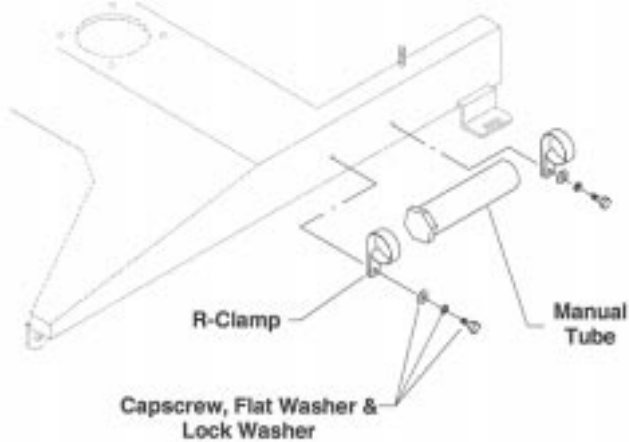

Figure 7
6. Mount operator manual tube to 5th wheel hitch plate. (Fig. 7)